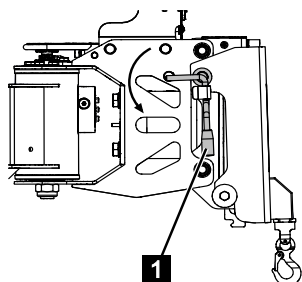

Fig. 164
4. Turn the locking pin (Fig.164/1) 90° anti-clockwise until it engages.